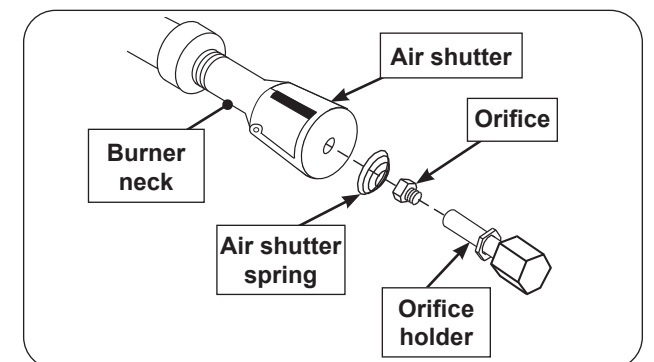

Fig. 34-3 Burner replacement diagram
2. Squeeze the collimator to detach the rear tab from the rear liner as shown in Fig. 34-3, A, and lift up the rear portion of the collimator.
3. Detach the collimator from the front collimator support and completely remove the collimator as shown in Fig. 34-3, B.
4. To re-install, position the air shutter spring and air shutter over the orifice holder fitting, between the burner and the heat shield, in the order and position shown in Fig. 34-3. Do for both burner necks.